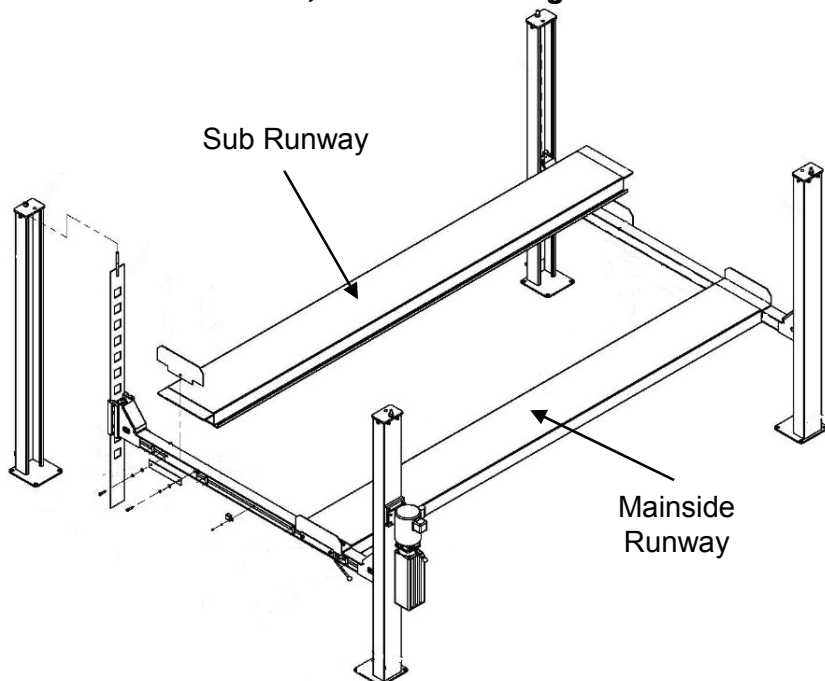

Fig. 5
15. Carefully lift and position each Runway into place and secure to Crossbeams ends with the provided Hex Bolts (#44), Mounting Plate (#42) and hardware (#19, 45, 46 & 47) as shown in Fig. 5 & 5b. The lift will square itself as you further assemble it.